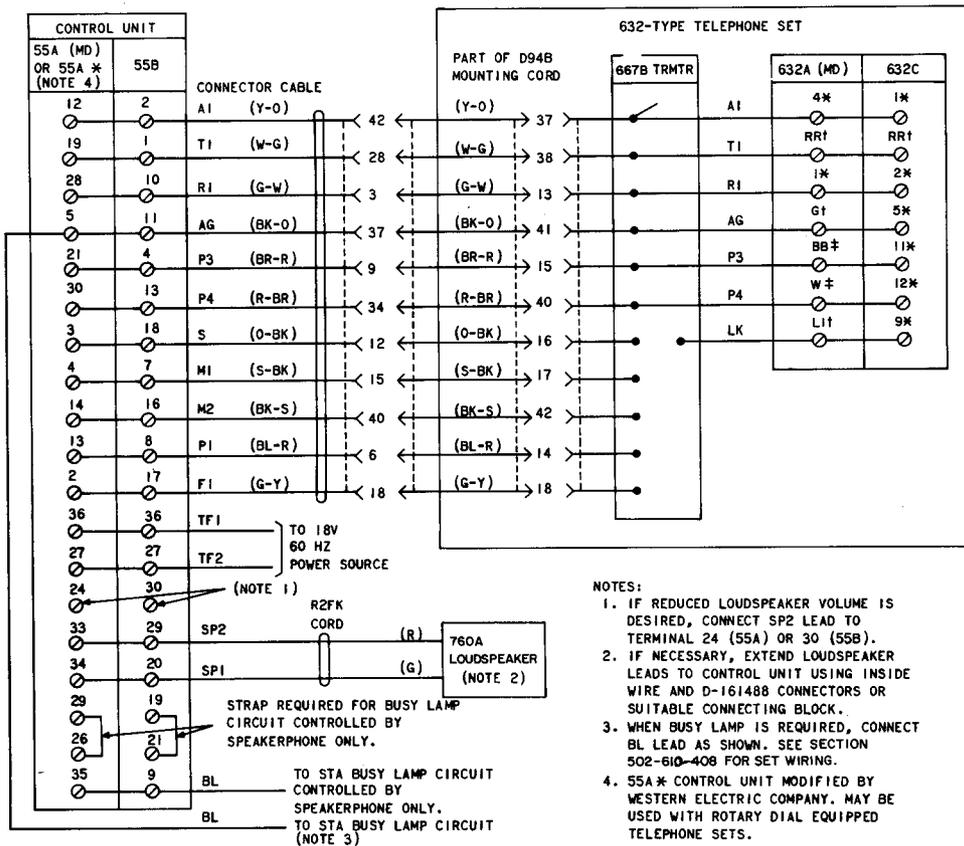
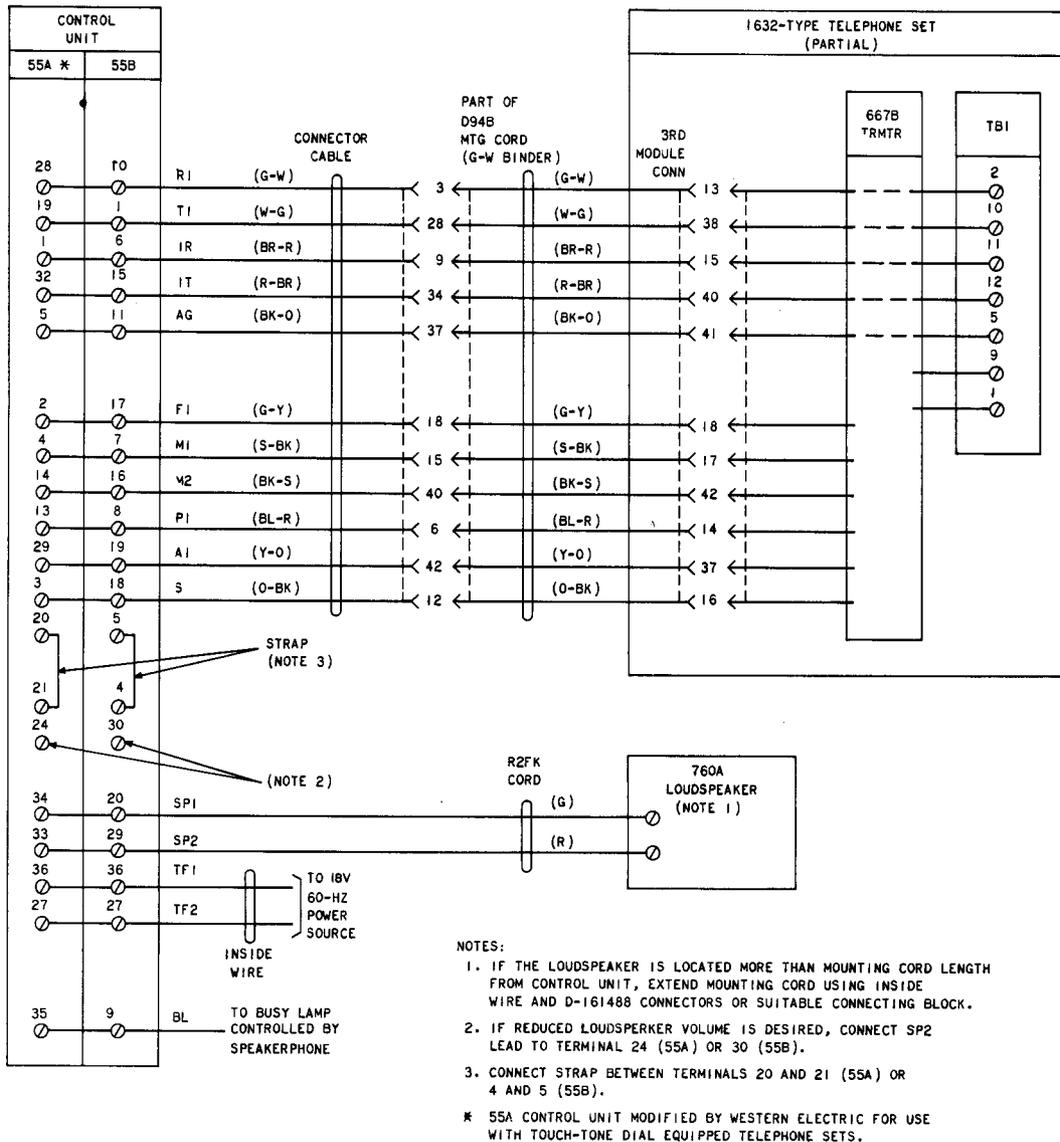
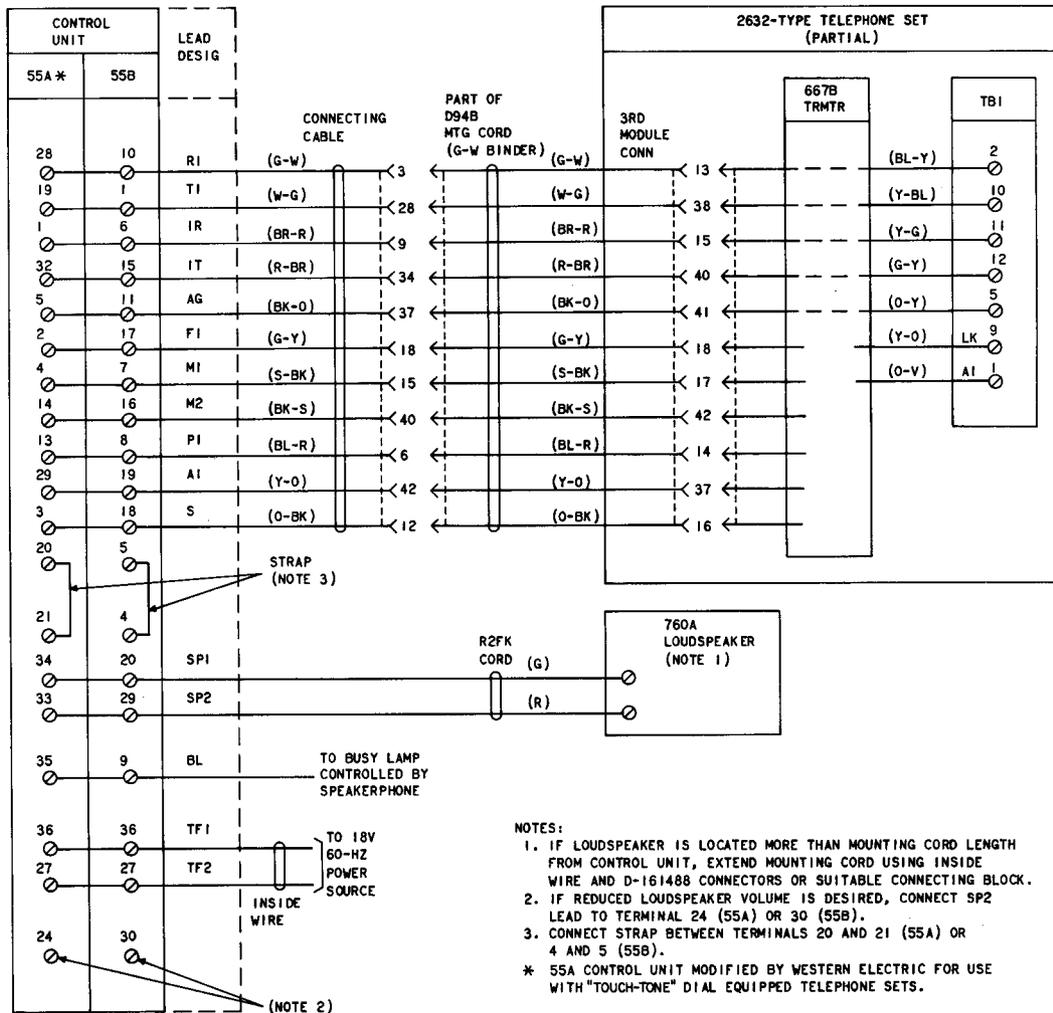

Fig. 1—632-Type Telephone Set, Connections To 3-Type Speakerphone System
Fig. 2—1632-Type Telephone Set, Connections to 3-Type Speakerphone System
Fig. 3—2632-Type Telephone Set, Connections to 3-Type Speakerphone System
- (1) Remove telephone set faceplate, mat, and housing. See Section 502-600-100 for procedures.
- (2) Remove key unit or apparatus blank in right-hand module position and plug in a 667B transmitter (ordered separately).
- (3) Connect transmitter spade-tipped leads as shown in Fig. 1 for 632-type, Fig. 2 for 1632-type, and Fig. 3 for 2632-type.
(4) If a 632-type set is equipped with 8R dial, replace with 8C dial (ordered separately).
(5) Install housing using reverse procedure.
(6) Install new faceplate and mat (ordered separately) in which transmitter cutouts are provided.